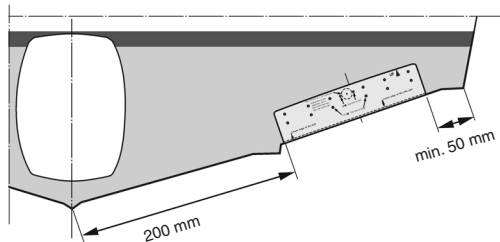

Fig. 11
The interceptor units (C) **figs. 1 and 4** are attached to the transom close to the hull bottom. The precise position is determined by the template included in the delivery (see below for detailed instructions). The further outboard the interceptor units are mounted, the greater the side-to-side maneuverability. Position the interceptor at least 50 mm from the chine towards the boat's centerline. Boats with outboard motors, Aquamatics or waterjets must have at least 200 mm between the drive unit centerline and the closest edges of the interceptor units. See Fig. 11.